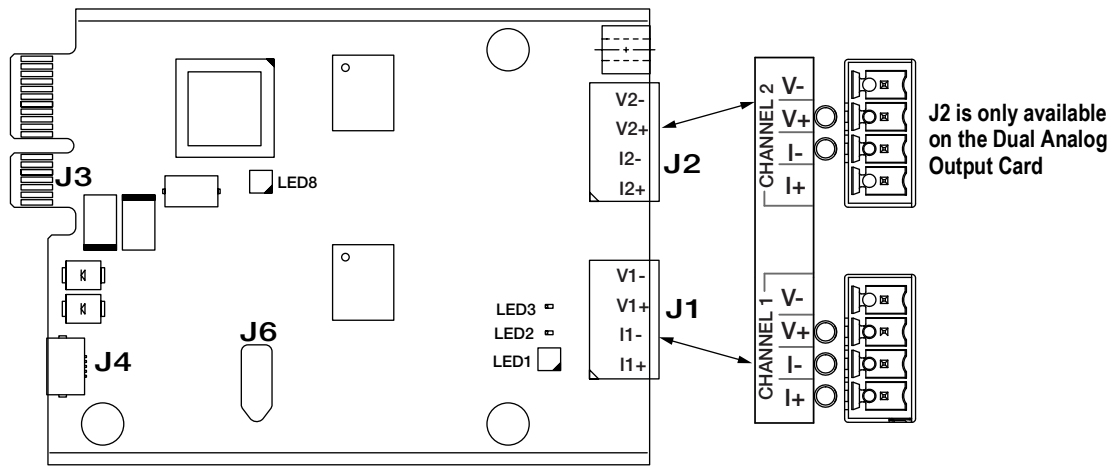

Figure 3. Analog Output Card (Dual Analog Output Card)
7. Make connections to the option card, see Figure 3.